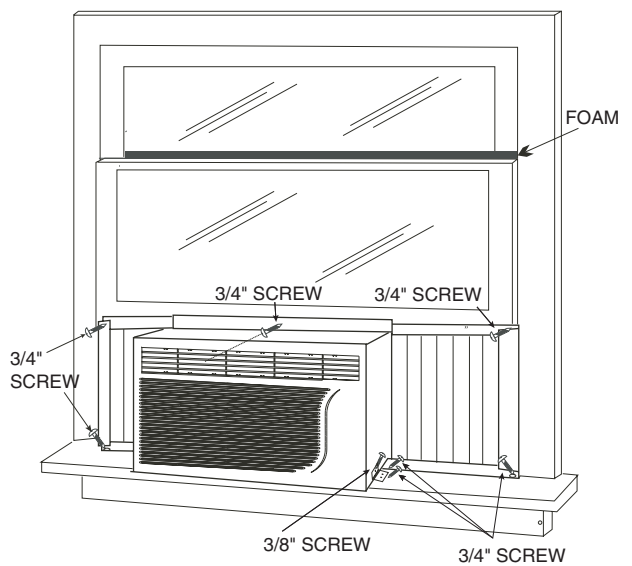

FIGURE 8 — SECURE AIR CONDITIONER TO WINDOW
9. Secure the air conditioner to the window sill. See Fig. 8. Remove the 3/8-in. screw from the bottom of each side of the air conditioner. Install side brackets (provided) on each side of the air conditioner using the screws that were just removed. Leave screws loose. Mount side brackets onto the window sill next to the air conditioner using two 3/4-in. screws (provided) for each bracket. Tighten 3/8-in. screws to secure brackets to air conditioner.
10. Secure the air conditioner to the bottom of the window sash with one $\frac{3}{4}$ -in. screw provided. Screw is installed through the hole in the center of the top channel of the air conditioner. See Fig. 8.
11. Pull out the expanding side shutters from the sides of the air conditioner. The panels should expand to cover the entire width of the window. There is a hole provided in the top end of each side shutter which is used to secure the panels to the window. There is a tab on the bottom of the side shutter provided to secure the side shutter to the window sill. With the wing panels expanded, mark the drilling locations on the sides of the window frame and sill (through the holes in the panels). See Fig. 8.
12. Drill the holes marked in Step 11 with $\frac{1}{8}$ -in. drill bit. With the wing panels expanded, secure the wing panels with two $\frac{3}{4}$ -in. screws provided (each side). See Fig. 8.
13. Cut thick foam seal (provided) to fit the length of the window. Insert the foam seal between the top of the lower window sash and the window panes of the upper window. See Fig. 8. Make sure there is a firm fit to prevent air leakage between the windows. This also prevents insects from entering through the window.